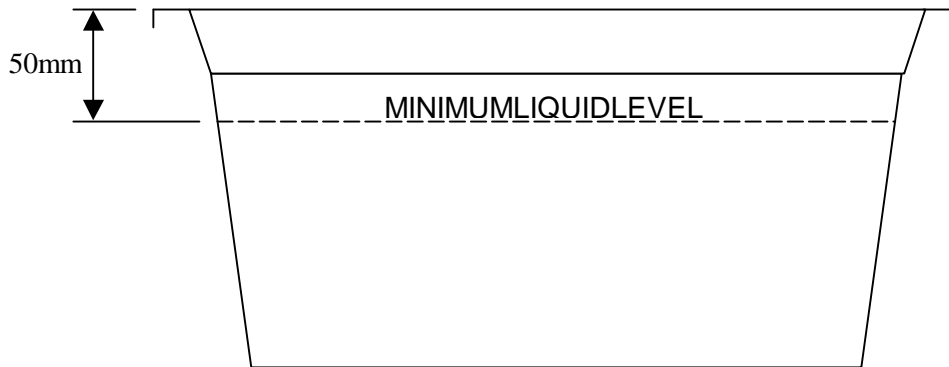

Fig1 Minimum liquid level
- The cleaning bath must not be operated with liquid levels below the minimum level (see Fig 1 overleaf), and on no account must it be operated without liquid in the system.
On no account must the liquid depth be allowed to fall below the minimum level line inside the tank (see Fig. 1 in Section 2.2 of this manual), or serious damage may be caused to the generator, transducers and heaters (where fitted).